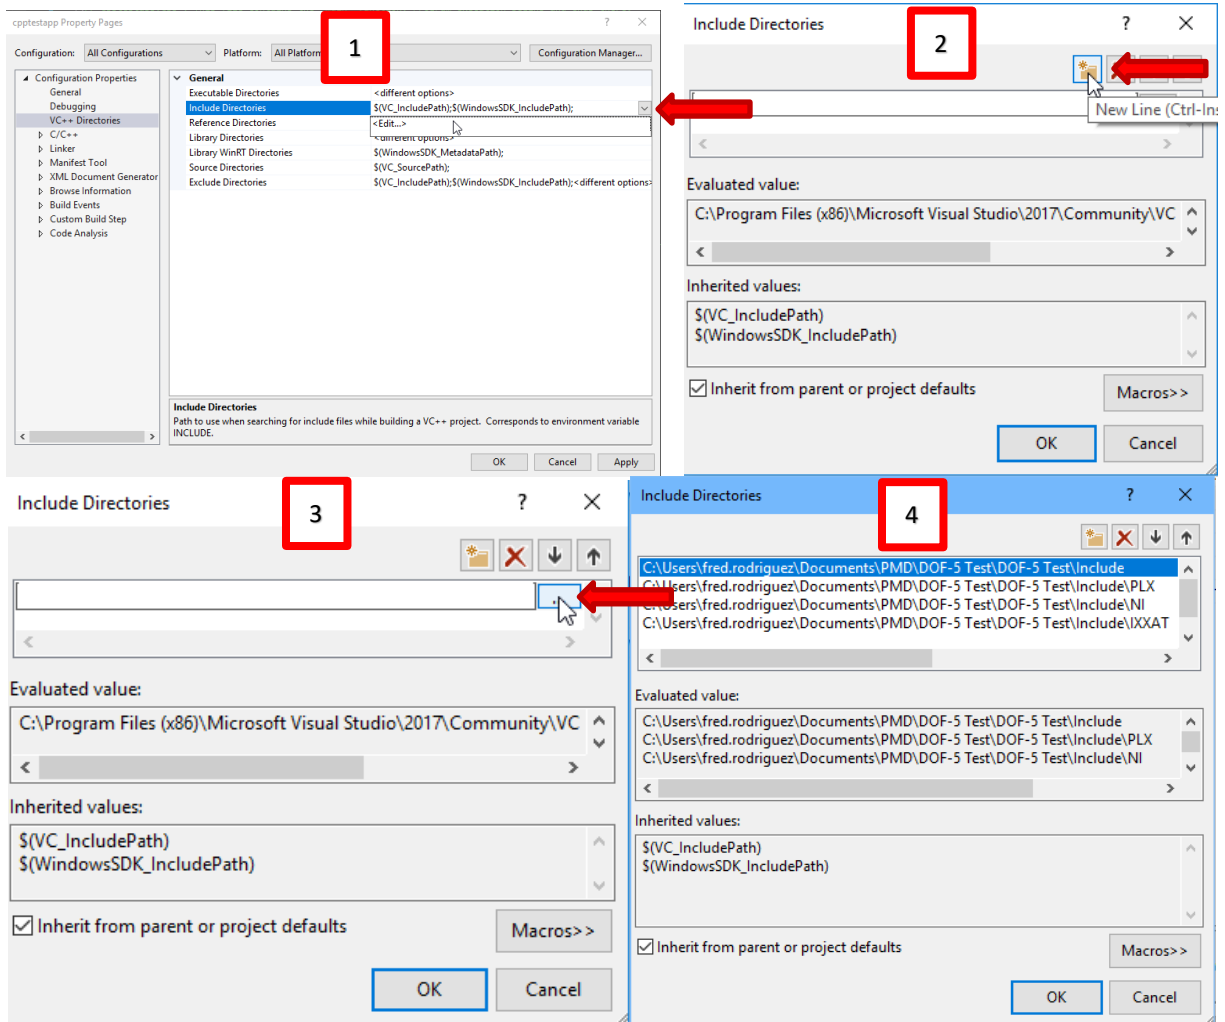

Figure 53 - VS2017 VC++ Directories
- e. VC++ directories – include directories – add the following folders per Figure 53 - VS2017 VC++ Directories